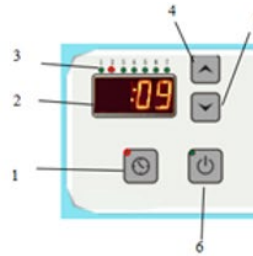

Fig. 6-3
- Click ⌚ Key (1) to accept the hour selection and then select the minute by using Key (4) or (5) (Fig. 6-3);